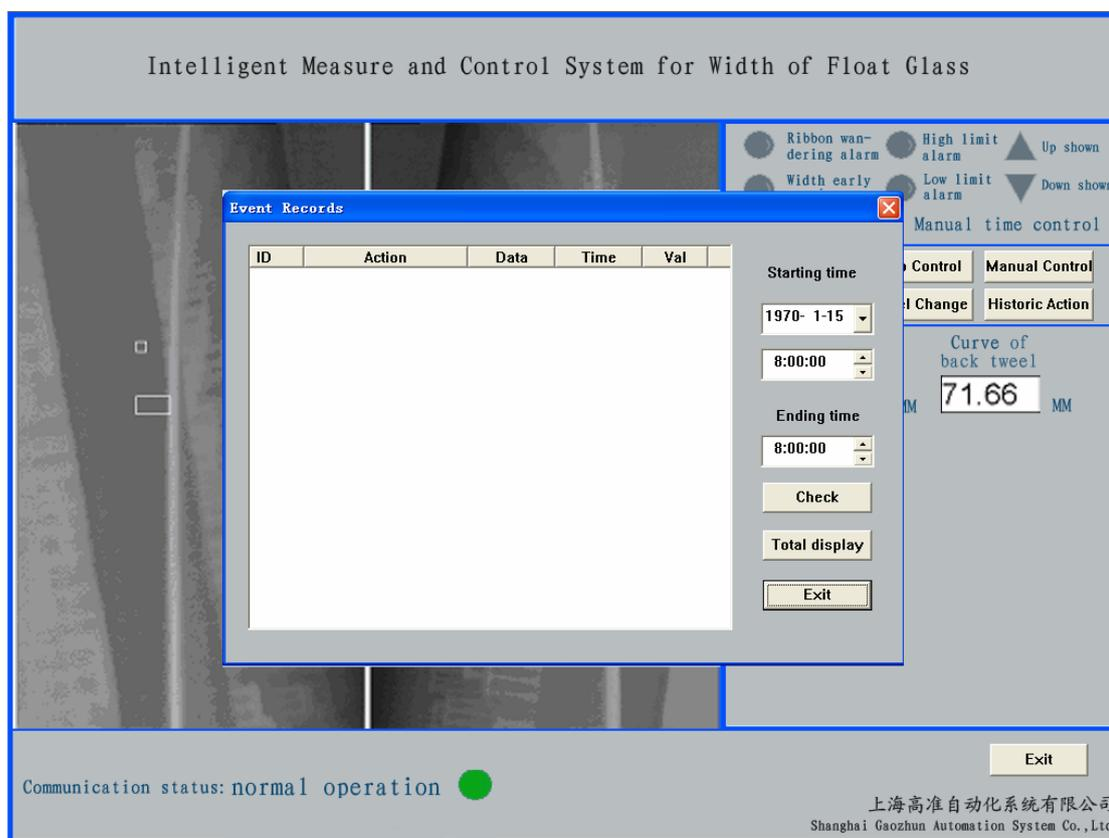

Fig. 11
5.7 Historic action Click this button, a record frame of historic actions will appear, of which the interface is shown as Fig.11.